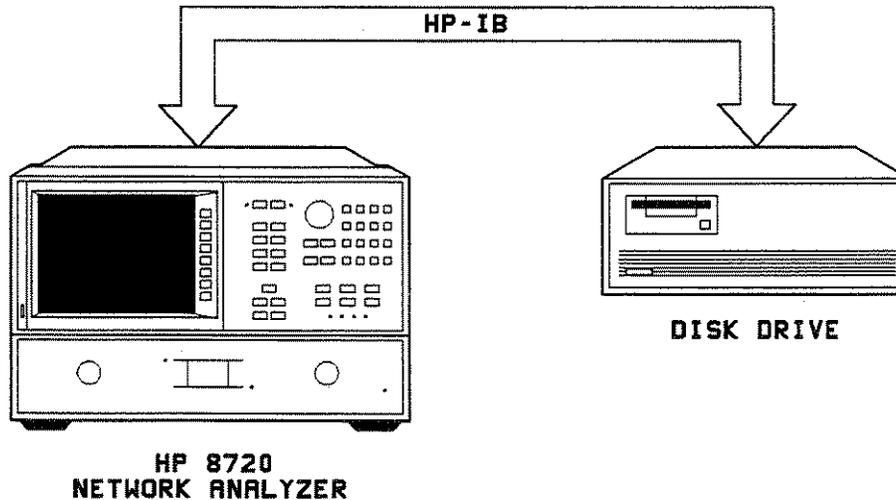

Figure 3-8. Setup to Load Calibration Constants into an HP 8720
1. Connect the equipment as shown in figure 3-8. Turn on the disk drive.